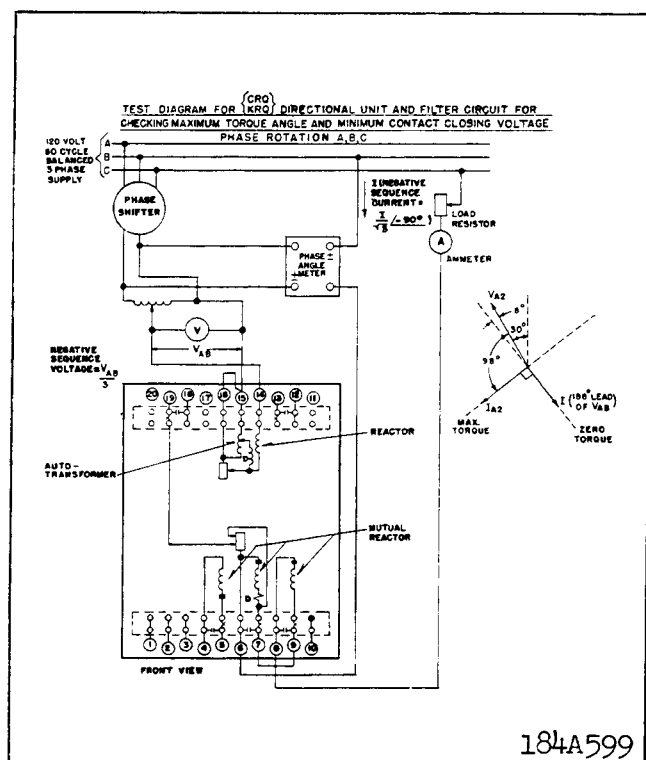

Fig. 13. Test Diagram For Checking Max. Torque Angle And Minimum Voltage For Contact Closure of Directional Unit.
2. Sensitivity — Refer to the test diagram in fig. 13. Apply a single-phase voltage V_{12} equal to 0.57 volts (corresponds to a negative-sequence input voltage of .19 volts) and a single-phase current equal to 6.93 amperes as shown (corresponds to a negative sequence input current of 4 amperes). With a phase angle meter connected as shown, rotate the phase shifter until the current leads the voltage by 188° . This corresponds to the negative sequence component of current leading the negative sequence component of voltage by 98° . The directional unit contact should pick up within $\pm 10\%$ of the above input voltage to the relay.
Fault Detector (FD) Either apply three phase negative sequence current equal to the scale setting or apply single phase current equal to $\sqrt{3}$ times the scale setting. These currents are applied to the relay terminals as shown in Fig. 13. The contacts should pick-up within 10% of these currents.
The spring is to be adjusted such that the contacts will close when the relay is energized with 0.57 volts and 6.93 amps at 188 ' (current leading voltage) considering the relay connected to the test circuit in Fig. 13.
Apply single phase current as shown in fig. 13. Set the micarta disc at some particular current setting on the scale plate. The contact should close within 10% of this value. The core screw at the top of the switch will affect the pickup (as well as dropout). If this is moved then the unit should be checked for erratic action at 30 amps A.C.